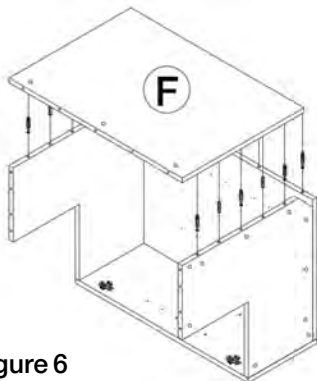
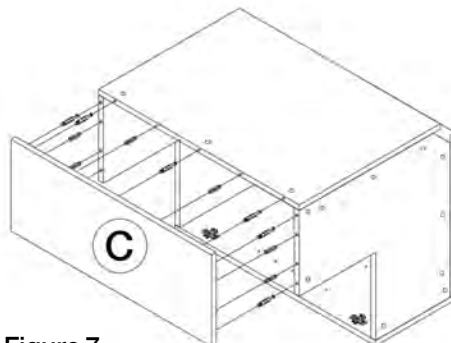

Figure 6
Figure 7
7. Install back panel (F) (Figure 6) side panel (C) onto the assembled panels using the same methods above. (Figure 7)